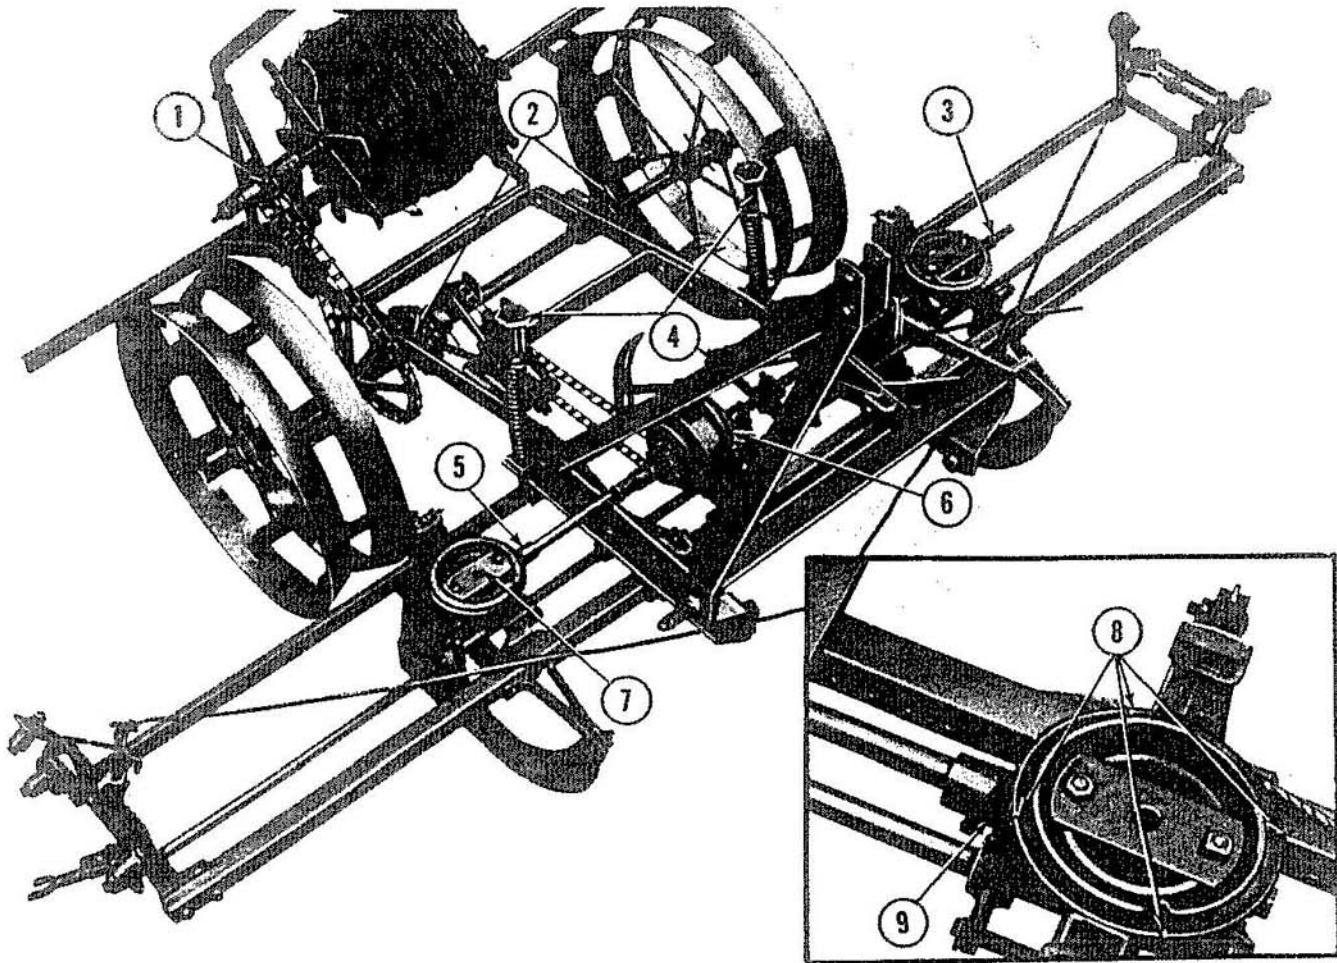

Figure 7
The planter should be properly lubricated after assembly and at the end of each day of operation thereafter. There are two lubrication fittings on the Dearborn Check Row Corn Planter, one of which is located on each axle bearing (2), Figure 7. Lubricate these bearings with a good grade of pressure gun grease. Fill the oil hole (7), Figure 7, at each end of the seed shaft. Fill the two oil holes on each side of the clutch assembly (6), Figure 7, and also the one on the inside of the clutch. Oil the chain idler shaft and the reel
Tension Springs: Tension on the planter press wheels can be set as desired by adjusting the hand wheels (4), Figure 7. For ordinary planting, the hand wheels should be turned down approximately three-fourths of their length.
planter, the pinions (3) and (5), Figure 7, are not in proper mesh with the ring gears.
- a. Loosen the set screws in the seed shaft pinions (3) and (5), Figure 7, and slide them back from the ring gears.
- b. Reposition the pinion gears (3) and (5), Figure 7, so that they are in proper mesh with the ring gears, and so that the marked tooth (9) on each pinion is properly timed with one of the four marks (8) on the ring gears.